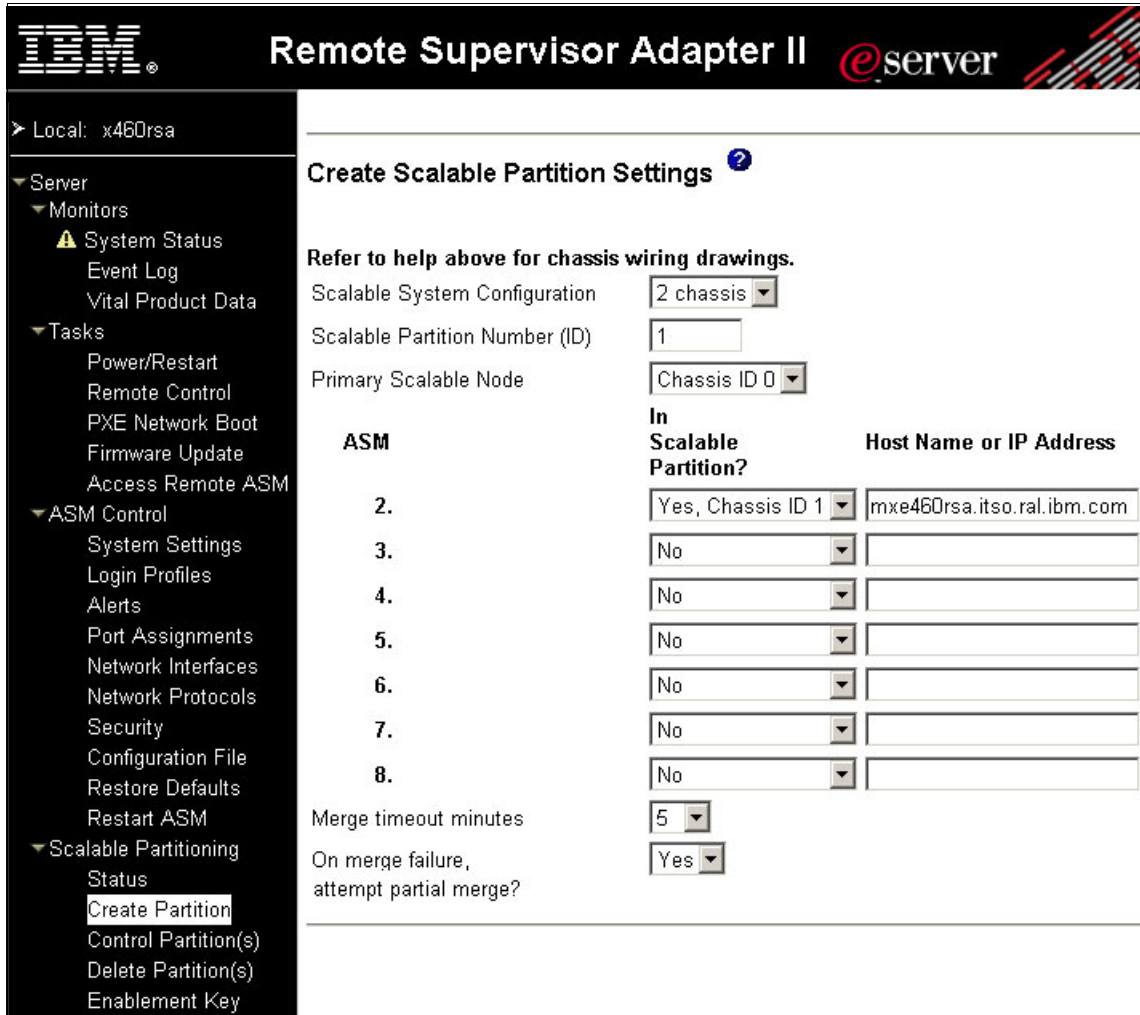

Figure 3-10 Create Scalable Partition Web interface
The multi-node configuration data is stored on the RSA in all chassis that are members of the scalable partition. Figure 3-10 on page 111 depicts the RSA Web interface for the scalable partition configuration.
3. In the RSA main menu, select **Scalable Partitioning** → **Create Partition**, as shown in Figure 3-10 on page 111.